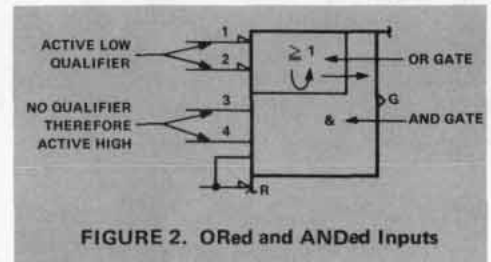

FIGURE 2. ORed and ANDed Inputs
- a. We said the ORed inputs are active low while the ANDed inputs are active high. Figure 2 graphically shows this.